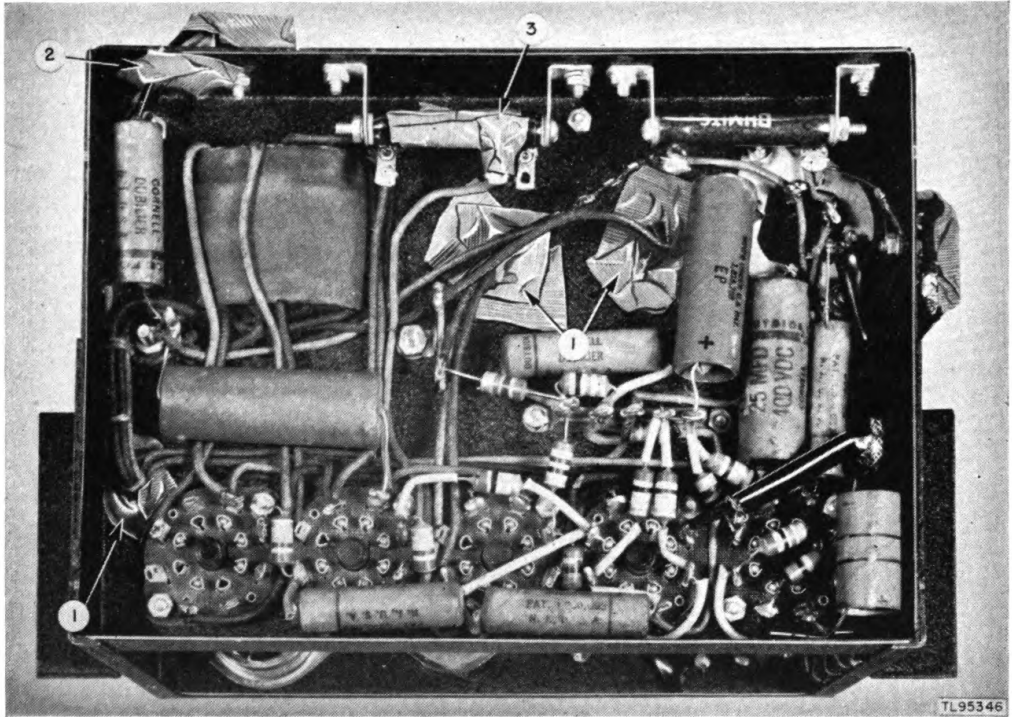

Figure 9. Reproducer amplifier chassis, bottom view, masking details.
- (3) Apply petroleum jelly (vaseline) to all prongs of all vacuum tubes and replace the vacuum tubes in their respective sockets after the masking has been completed.
- (4) Mask the 5Y3GT rectifier tube by using paper and masking tape. Cover the entire envelope of the tube.
- (5) Mask the three rubber chassis-grommets on the under side of the amplifier chassis (fig. 9 (1)).
- (6) Mask the rubber grommet for the motor leads (fig. 9 (2)).
- (7) Mask the wire-wound resistor and slide (fig. 9 (3)).